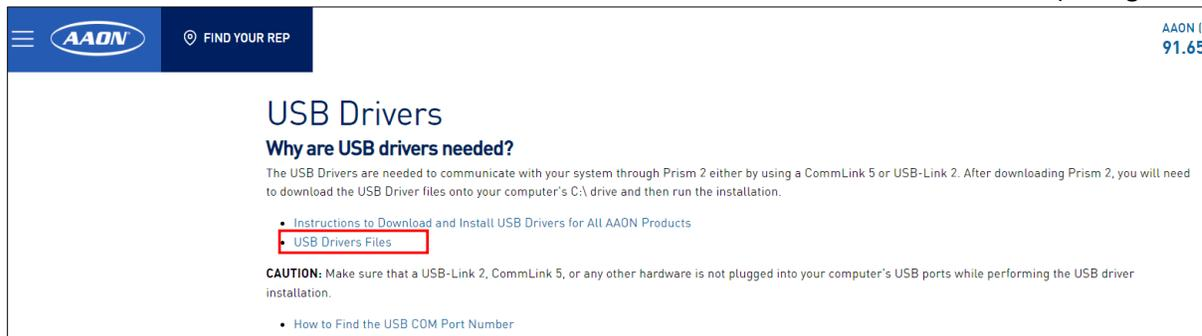

Figure 8: USB Link 2 Driver Software Download Location
2. Scroll down to the USB Drivers section and select **USB Driver Files** to start the download (see figure 8).